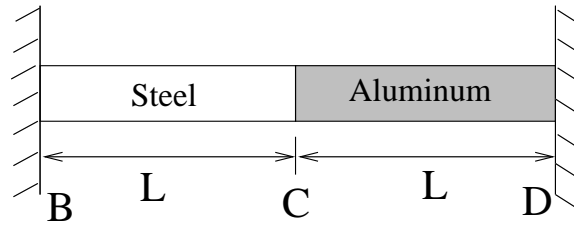

Figure 2: Problem 2.
2. A composite rod with a circular cross section of area A is constructed by (15) gluing together a steel rod and an aluminum rod each of length L . The glued joint is weaker either than the steel or the aluminum and fails at a tensile stress of τ_u . The composite bar is fastened to two rigid supports as shown in Fig. 2 in a stress-free state at a uniform temperature T_0 . Derive an expression for the temperature T_u at which the glued joint at C will fail in tension. Assume that the temperature remains uniform in the bar. The Young modulus and coefficient of thermal expansion are, respectively, E_s and α_s for steel and E_a and α_a for aluminum. You may use the energy method or otherwise.